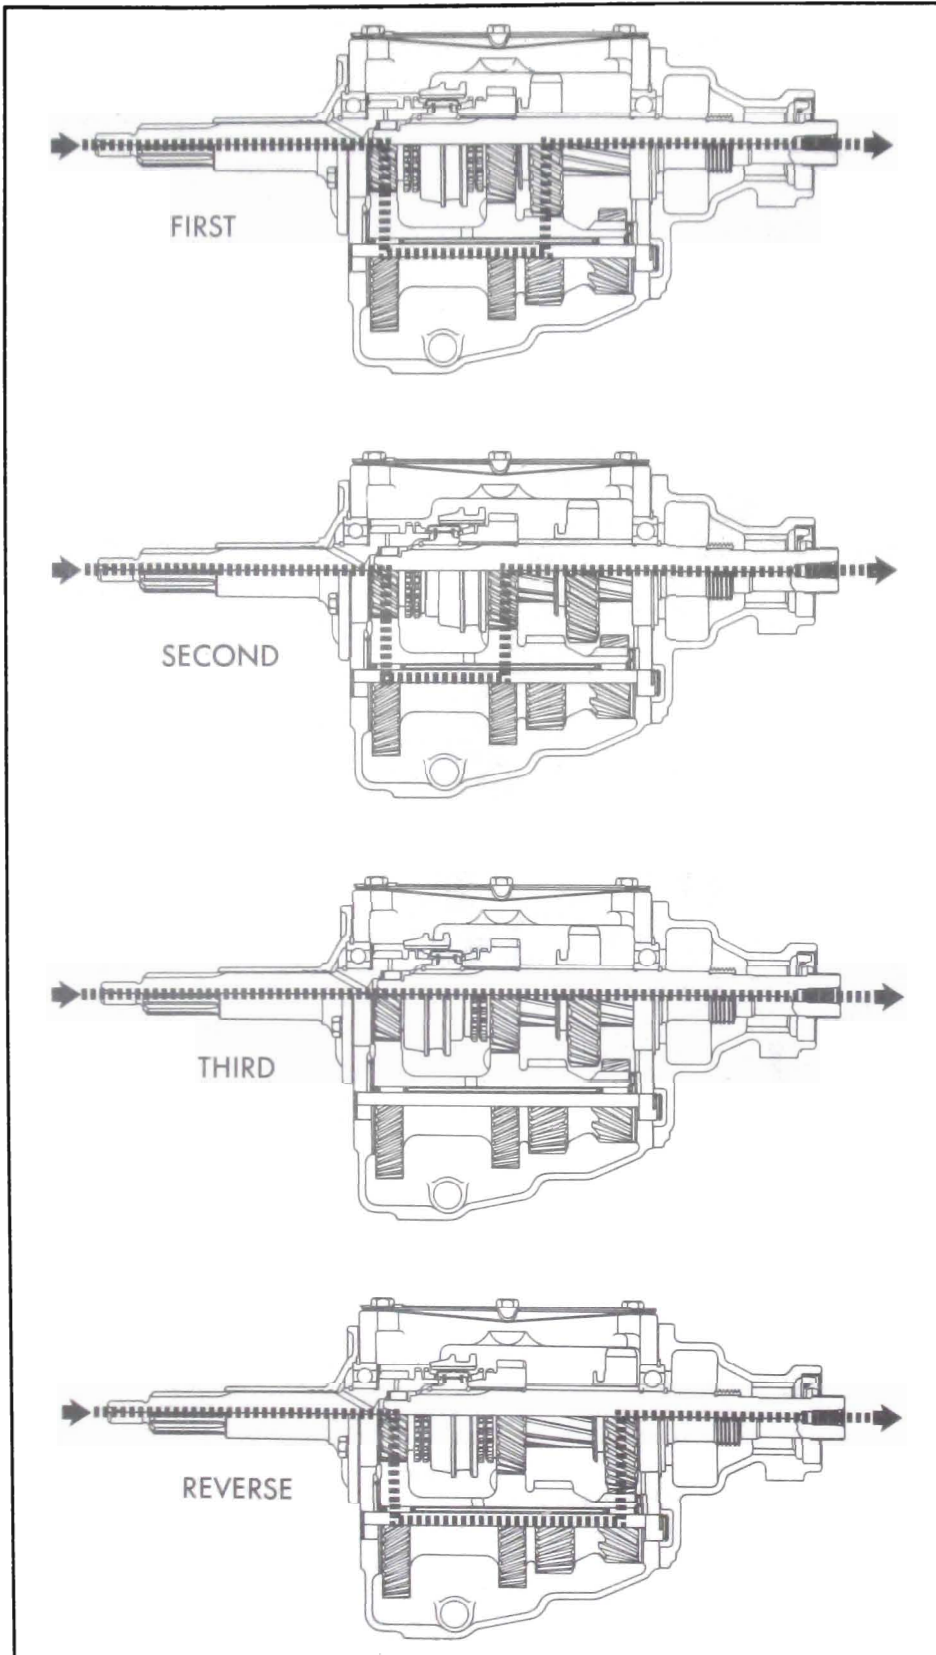

Figure 4-11—Power Flow Through Transmission
1. In first speed, the first speed sliding gear is slid forward on the mainshaft splines so that it engages its corresponding gear on the counter gear. See Figure 4-11 to follow the power flow.
2. In second speed, the clutch sleeve is slid rearward on the synchronizer hub so that it first synchronizes the speed of the second gear, then engages the projecting teeth on the second gear. See Figure 4-11.
3. In third speed, the clutch sleeve is slid forward on the synchronizer hub so that it first synchronizes the speed of the drive gear, then engages the projecting teeth on the drive gear. See Figure 4-11.